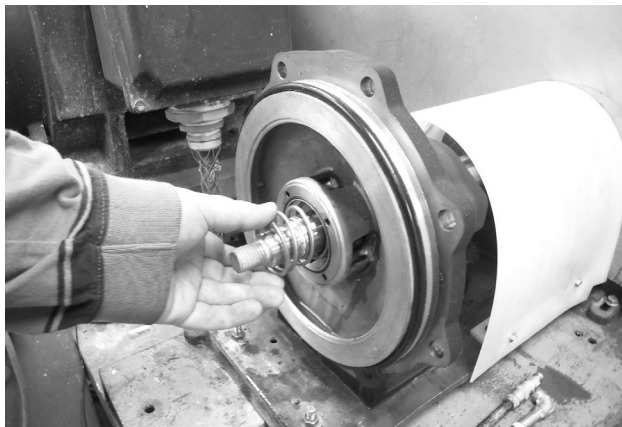

Figure 6
4. Place the seal spring onto the rotary portion of the seal (Figure 6).